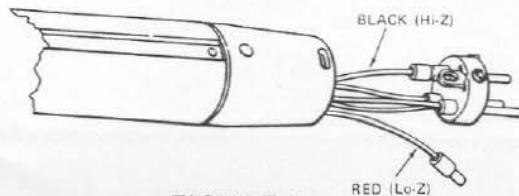

FIGURE 1
Impedance on Models 670 and 670V may be changed as follows: Turn the reverse threaded Set Screw in connector insert (29) counterclockwise until Connector Insert (29) is free. Remove the insert from the microphone. For unbalanced high impedance the BLACK wire is connected to Pin 2 of the connector insert (See Figure 1). For balanced Lo-Z connect the RED wire to Pin 2. A small connector sleeve (27) slides over Pin 2.